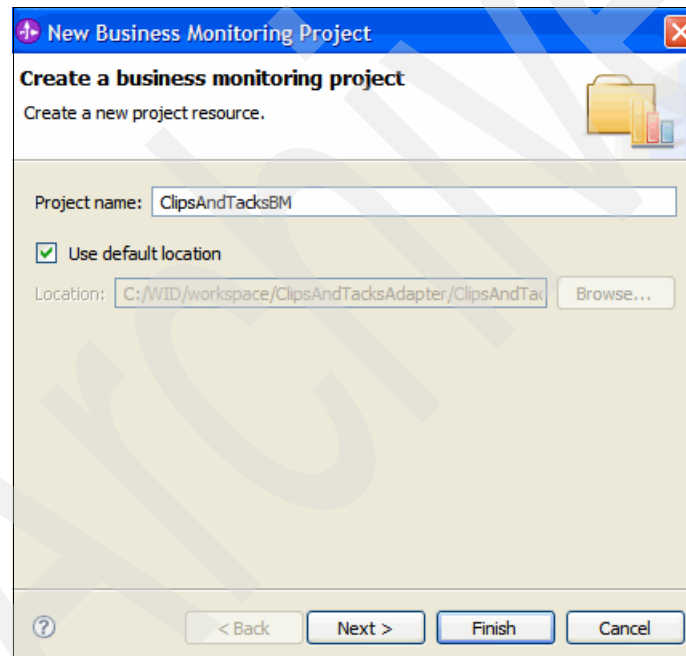

Figure 6-44 Creating a new business monitoring project
3. In the New Business Monitoring Project window (Figure 6-44), for Project name, type `ClipsAndTacksBM` and click **Finish**.